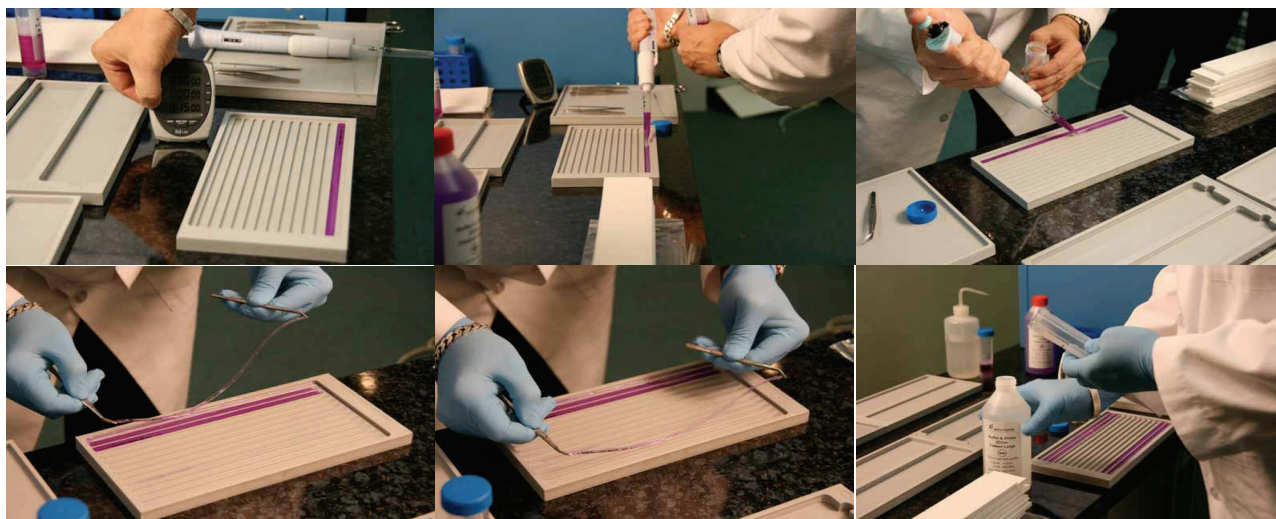

Fig. 2: Equilibration of the IPG-strips in 6 mL equilibration buffer.
3. Equilibrate each IPG-strip (gel-side up) in 6 mL solution in a **gel**company equilibrator (cat# 1003-04; fig. 2) on an orbital shaker (30 rev/min).